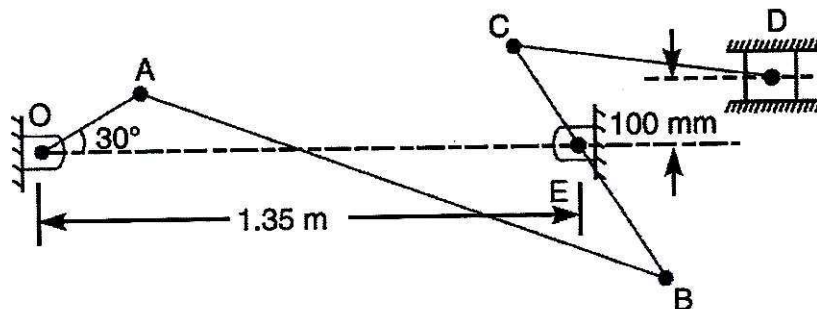

Fig. 2
- (b) A mechanism as shown in Fig. 2 has the following dimensions : $OA = 200 \text{ mm}$, $AB = 1500 \text{ mm}$, $BC = 600 \text{ mm}$, $CD = 500 \text{ mm}$, $BE = 400 \text{ mm}$. Locate the instantaneous centre. If crank OA rotates uniformly at 120 r.p.m., find velocity of B, D and C and the angular velocity of link AB, BC and CD. [11]